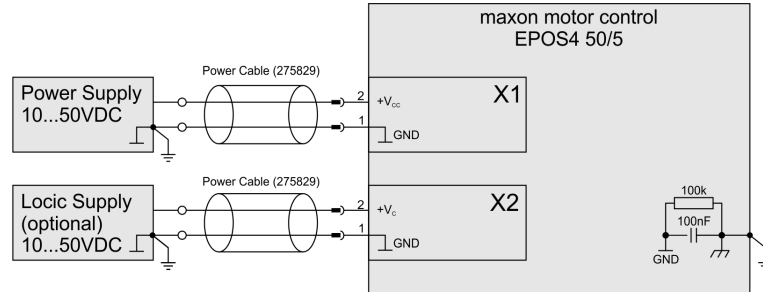

Figure 4-49 Power & logic supply
**Power supply & optional logic supply** . . . . .Figure 4-49
**Power supply & optional logic supply** ..... Figure 4-49